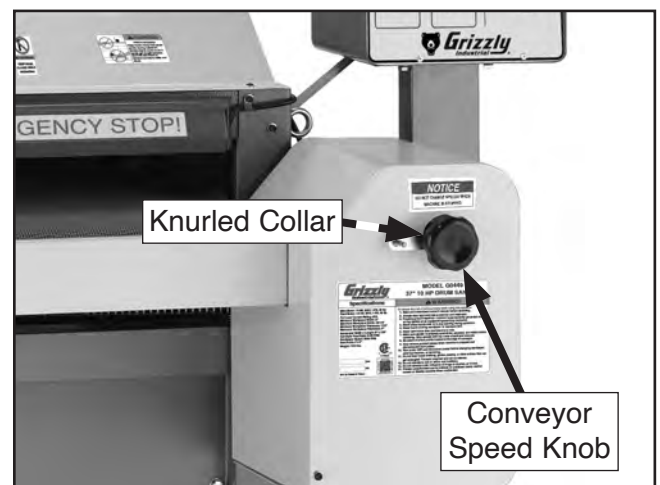

Figure 31. Variable speed knob.
2. Rotate knurled collar *clockwise* to release variable speed knob (see **Figure 31**), then rotate knob *counterclockwise* to increase feed speed or *clockwise* to decrease feed speed.